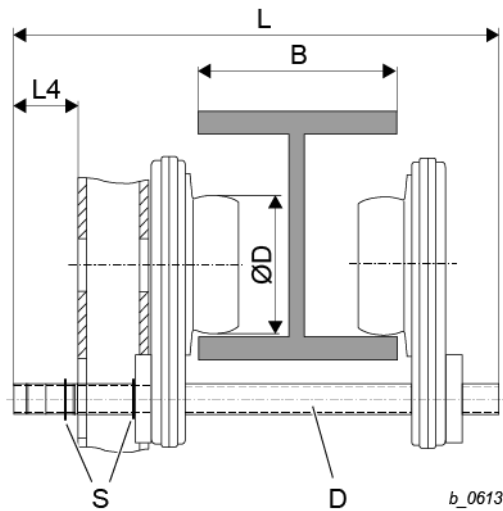
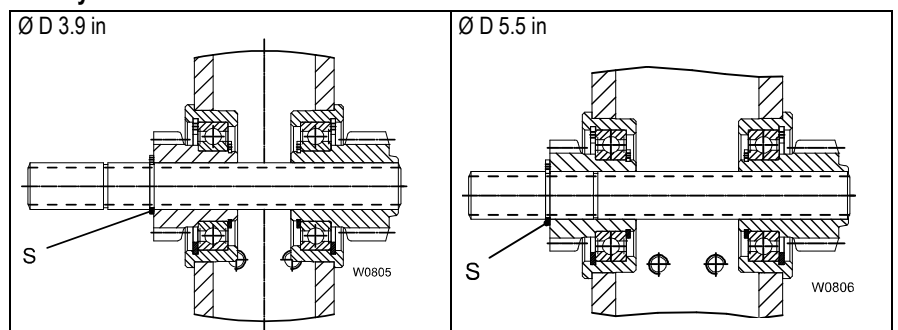

Fig. 21
Fig. 22
1. Mount lock washers "S" acc. To Fig.21 and Fig. 22. Drawings above